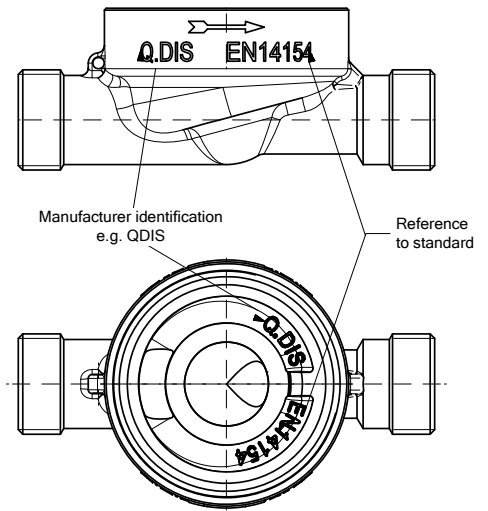

Fig. 6: EAT-labeling
- Only labelled EATs may be fitted in new installations. (see Fig. 6)